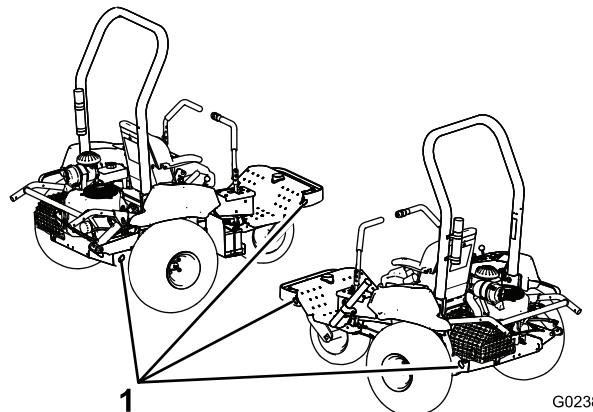

Figure 30
5. Use the tie-down points on the machine (Figure 30) to securely fasten the machine to the transport vehicle with straps, chains, cable, or ropes.